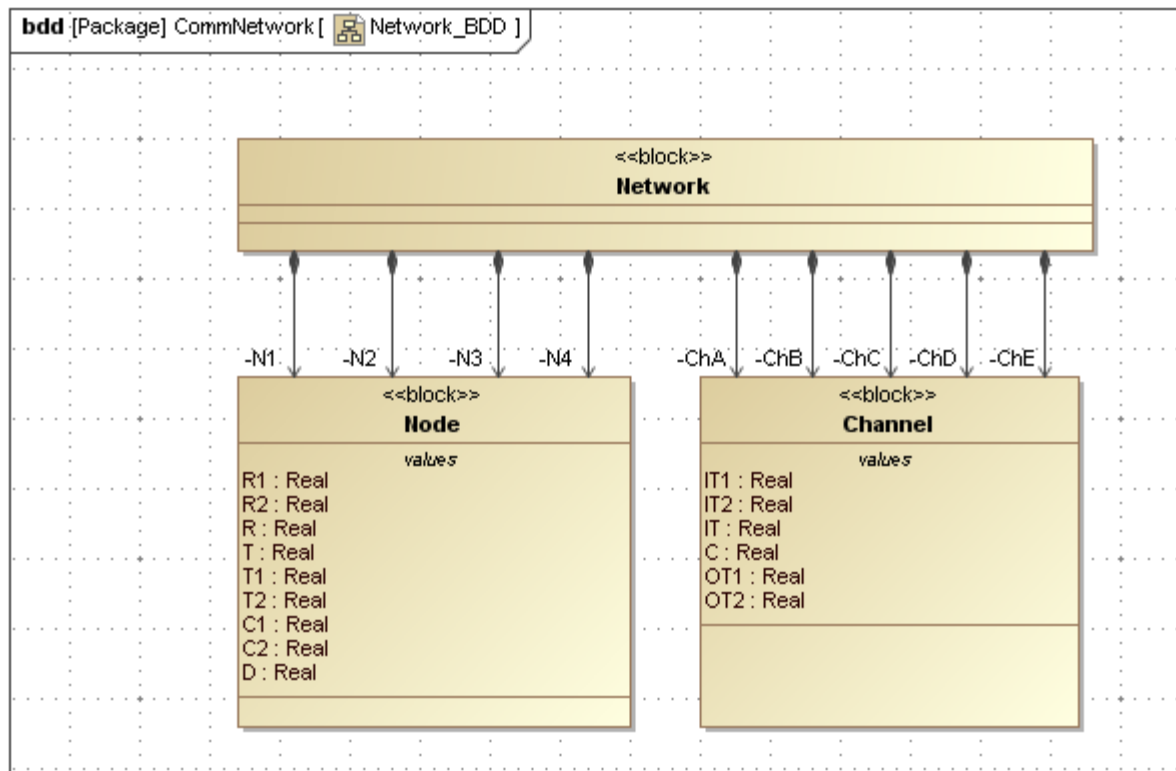

Figure 5.4 CommNetwork Block Definition Diagram
- ii. Using the Direct Composition connector from the floating toolbar, connect as shown in Figure 5.4. Note that four connections are made from **Network** to a single **Node** block, and the resulting four Part Properties are named **N1**, **N2**, **N3** and **N4**. Similarly, five connections are made from **Network** to a single **Channel** block, named as **ChA** thru **ChE**.